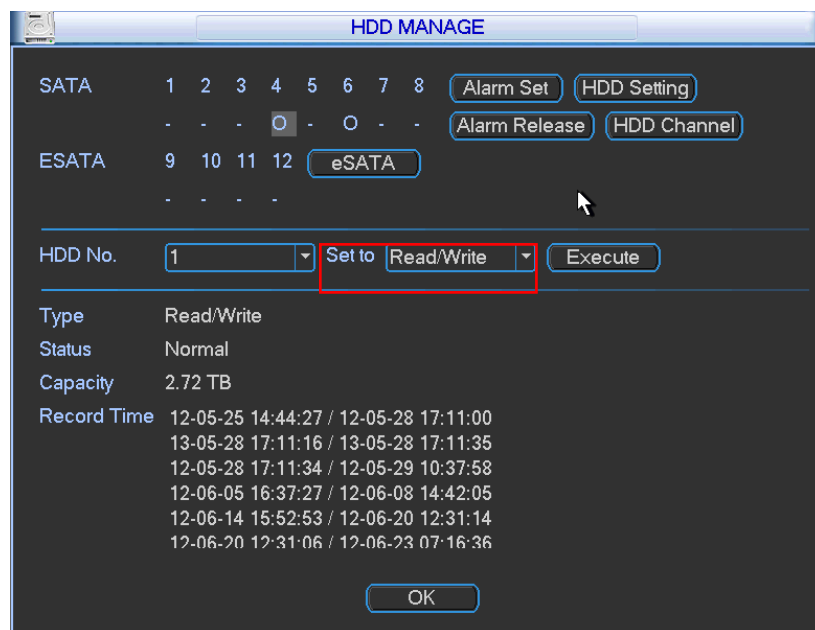

Figure 4-18
In the main menu, from Advanced to HDD management, you can set one or more disk(s) as redundant. You can select from the dropdown list. See Figure 4-18. System auto overwrites old files once hard disk is full.
- Set redundant disk(s) as read-only disk or read-write disk (Main menu->Advanced->HDD management). See Figure 4-18. System needs to reboot to get setup activated. Now you can search or playback file in redundant disk.